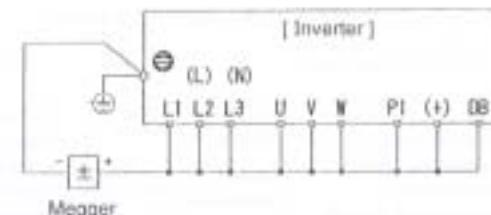

Fig. 12-4-1 Megger test
(1) Main circuit
- ① Use a DC 500V megger.
- ② Disconnect all wires that are connected to terminal board of the main and control circuits and to external circuits.
- ③ Connect main circuit terminals L1, L2, L3 (L, N), P1, (+), DB, U, V and W with a common wire as shown in Fig. 12-4-1.
- ④ Carry out the megger test between the main circuit common wire and the ground terminal only.
- ⑤ The condition is normal if the megger shows a resistance of 5MΩ or more.